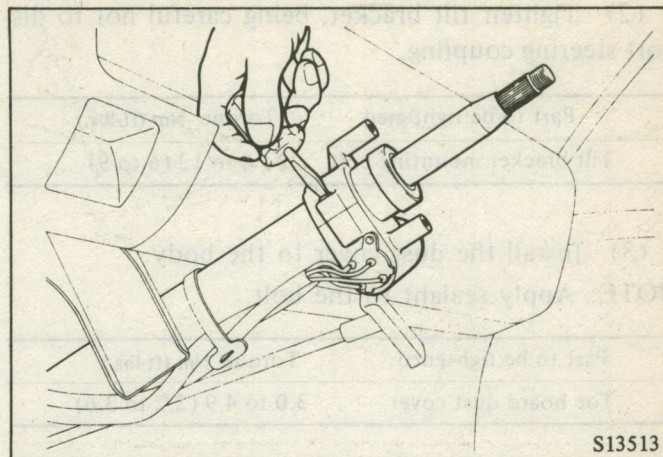

Fig. 14 Installing the Steering Wheel Lock
(6) Align the column tube hole with the wheel lock guide dowel and temporarily install the steering wheel lock. Then insert the ignition key to make sure the lock functions correctly. (Fig. 14)
- (8) Align the column tube hole with the wheel lock guide dowel and temporarily install the steering wheel lock. Then insert the ignition key to make sure the lock functions correctly. (Fig. 14)